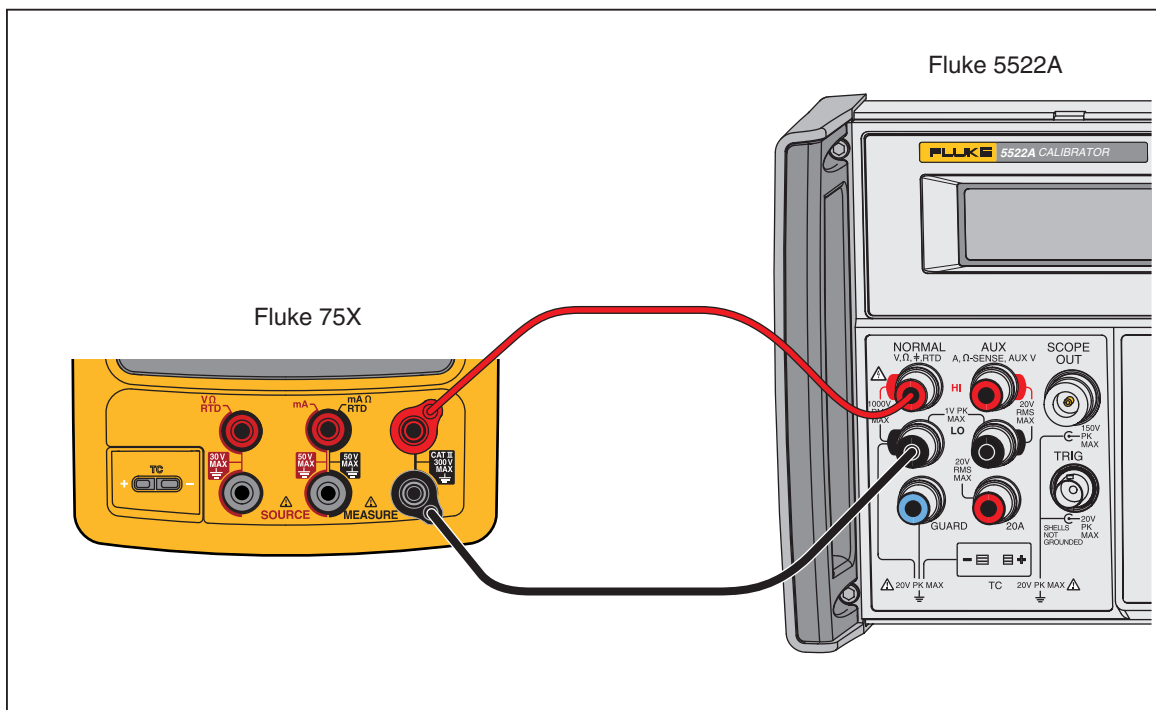

Figure 4. Frequency Measurement Verification Connections
1. Connect the UUT as shown in Figure 4 .